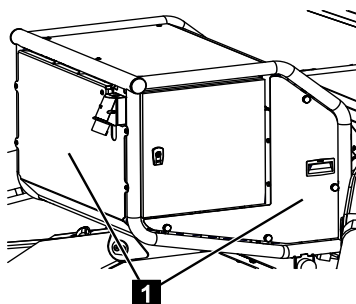

Fig. 200
2. Unscrew and remove the covers (Fig.200/1).